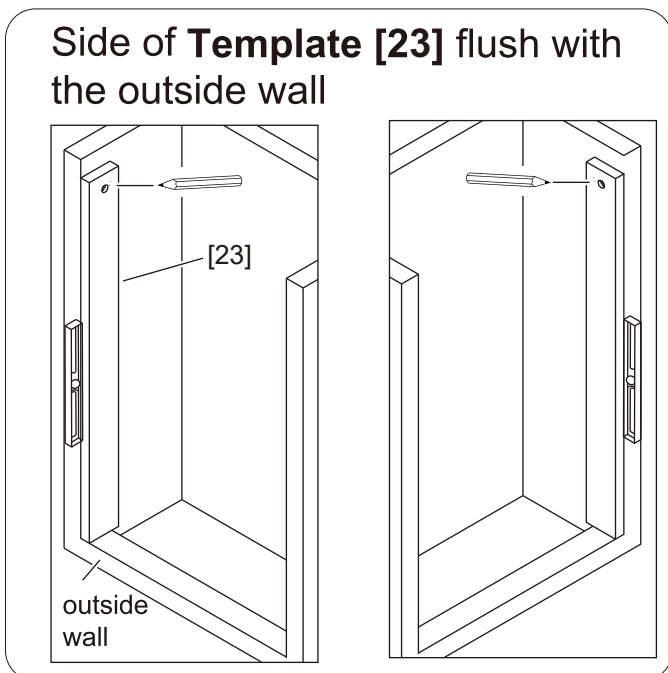

Fig 2.1
1. If this shower door is intended to be installed with **Bottom Rail [15]** flushing with the outside wall, position the **Template [23]** to the side wall of shower room with one of its side flush with the outside wall. (Fig 2.1)
3. Use a pencil to mark the screw holes on the wall through the **Template [23]** . (Fig 2.1, Fig 2.2)